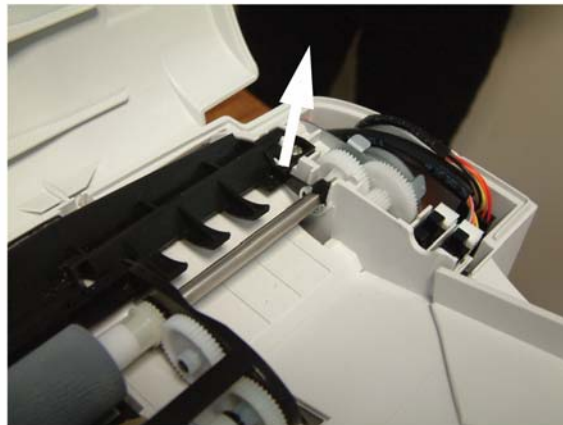

Figure 3
4. Lift the roller bearing from the other end of the feeder, Figure 3.